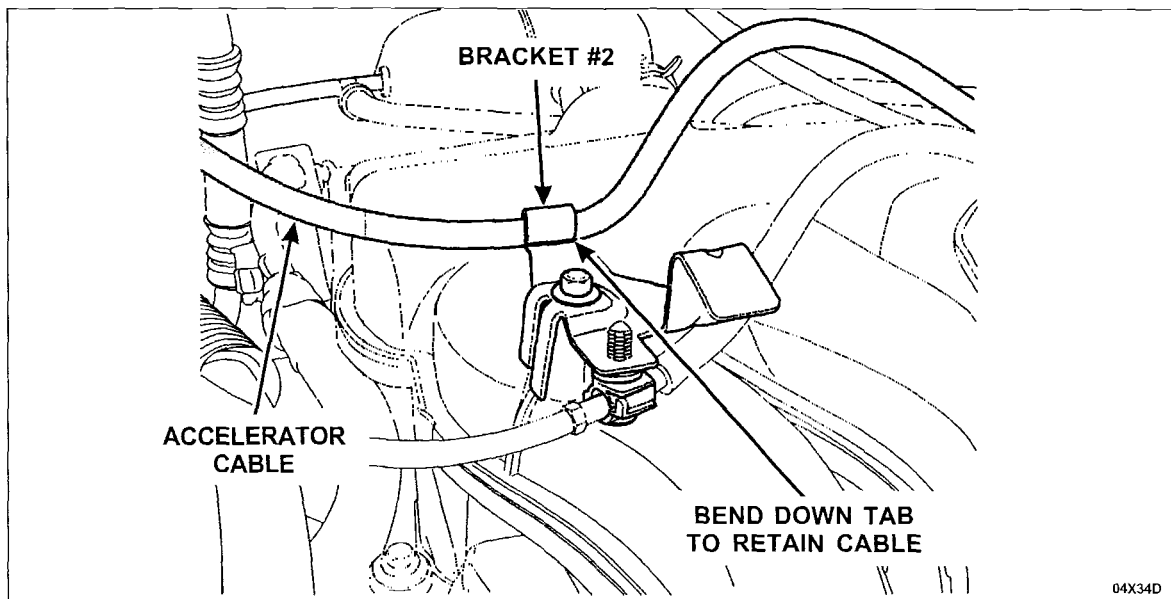

FIGURE 4
- D) Position the accelerator cable in bracket #2 and, using a suitable tool, bend down the tab to retain the cable while ensuring the cable moves freely in the bracket. See Figure 4.